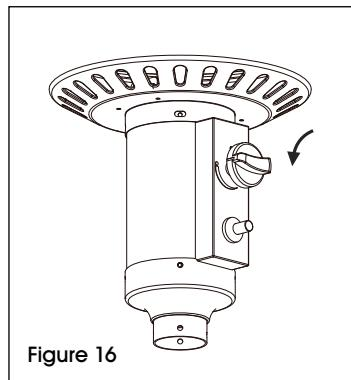

Figure 16
2. Press and turn the control knob to high (maximum) position (counterclockwise 90°). (See Figure 16)